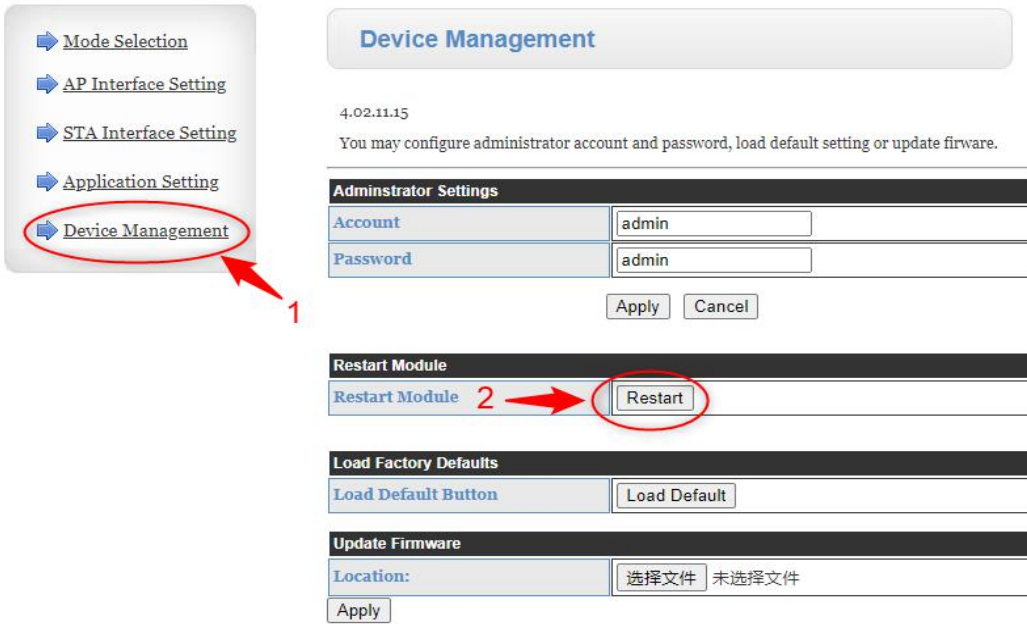

Figure 38
e. Module management settings (Figure 38 below)